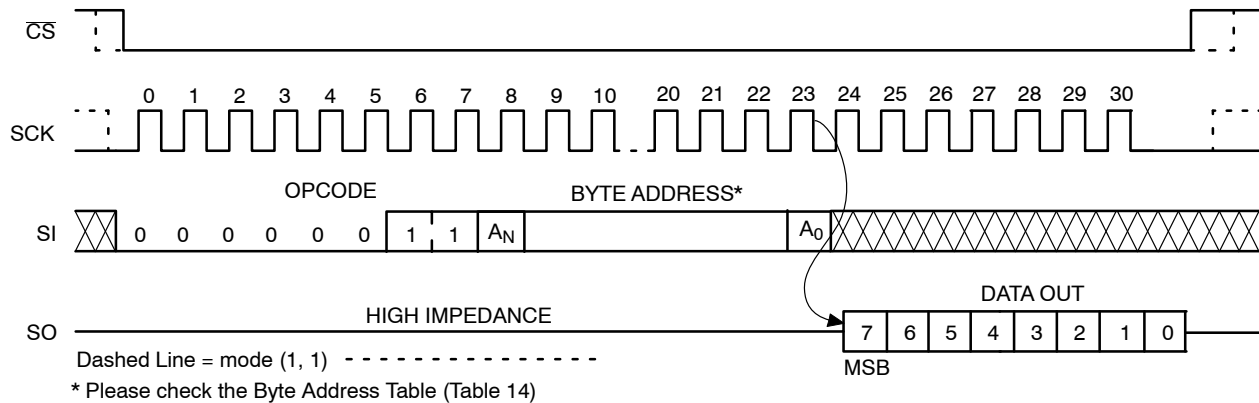

Figure 9. READ Timing
After receiving the last address bit, the CAT25256 will respond by shifting out data on the SO pin (as shown in Figure 9). Sequentially stored data can be read out by simply continuing to run the clock. The internal address pointer is automatically incremented to the next higher address as data is shifted out. After reaching the highest memory address, the address counter “rolls over” to the lowest memory address, and the read cycle can be continued indefinitely. The read operation is terminated by taking \overline{CS} high.
Reading the additional 64-byte Identification Page (IP) is achieved using the same Read command sequence as used for Read from main memory array (Figure 9). **The IPL bit from the Status Register must be set (IPL = 1) before attempting to read from the IP.** The [A5:A0] are the address significant bits that point to the data byte shifted out on the SO pin. If the \overline{CS} continues to be held low, the internal